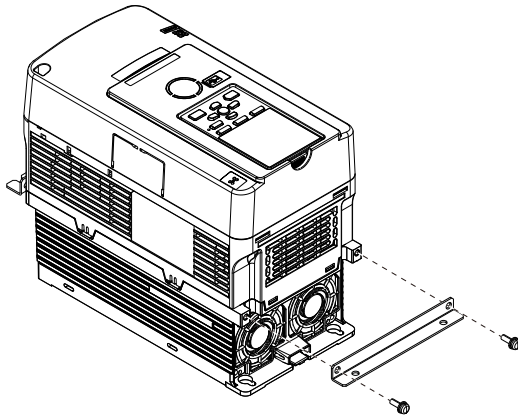

Figure 5.7 Install the Attachment
3. Use the screws supplied in the kit to install the attachment in the position shown in Figure 5.7.